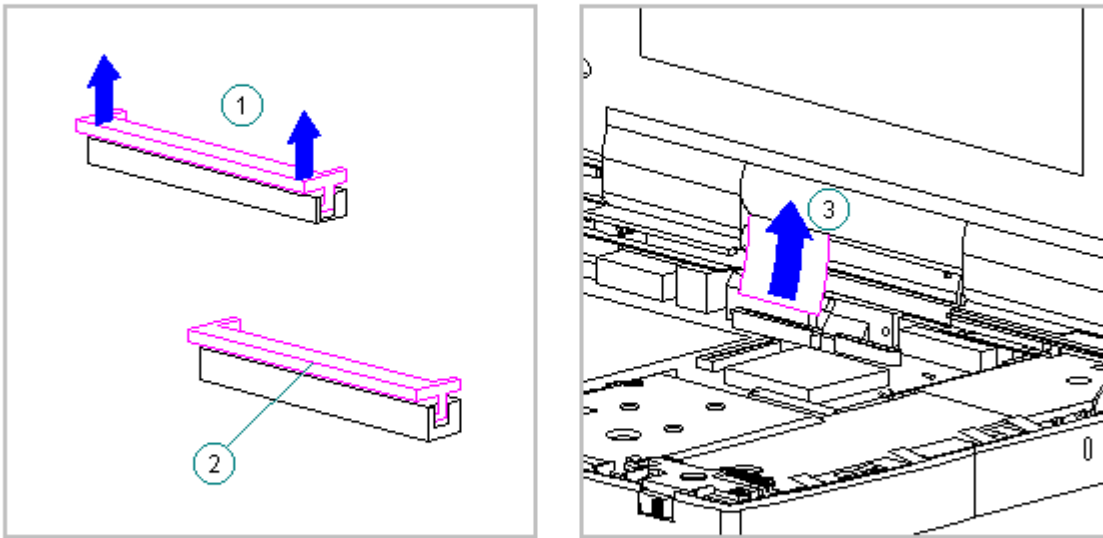

Figure 3-49. Removing the Display Cable from the System Board (All Models)
10. Disconnect the display cable from the system board by pulling up both ends of the ZIF connector slide simultaneously [1], carefully opening the slide [2] (Figure 3-49).
11. Lift the display cable out of the connector slide [3], being careful not to pull or twist the cable (Figure 3-49).